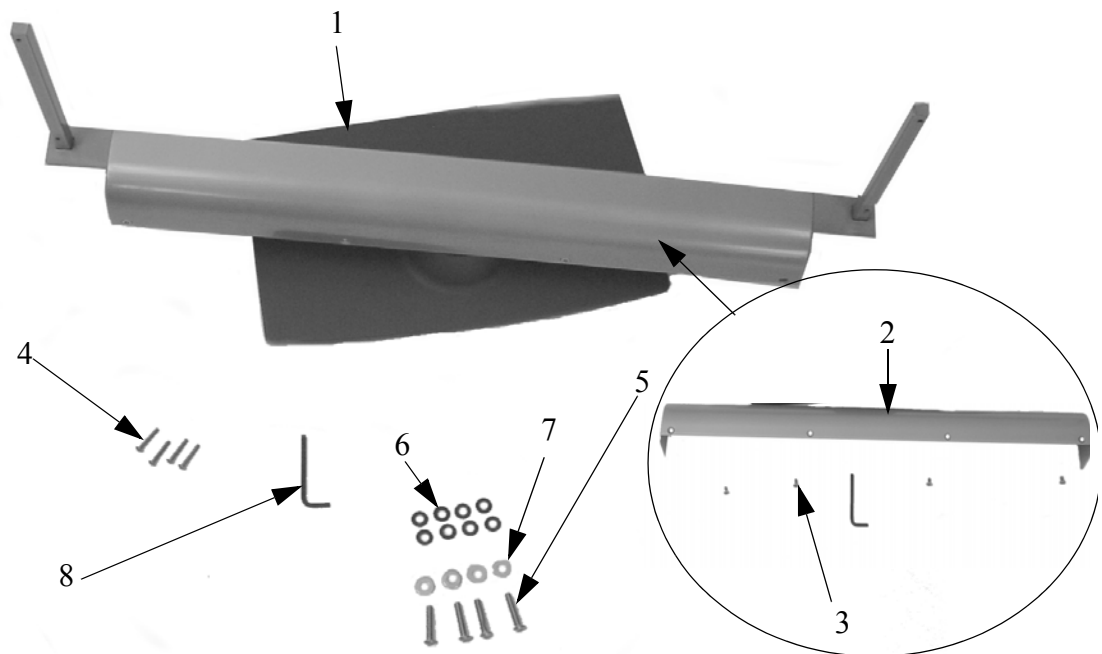
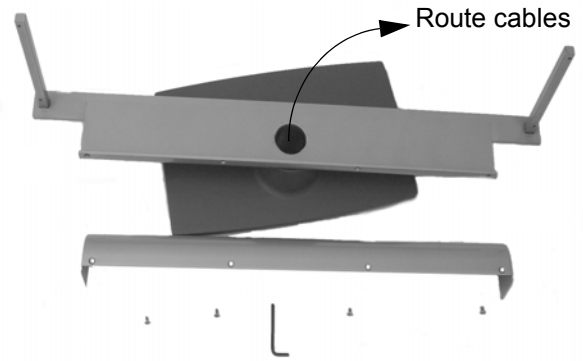
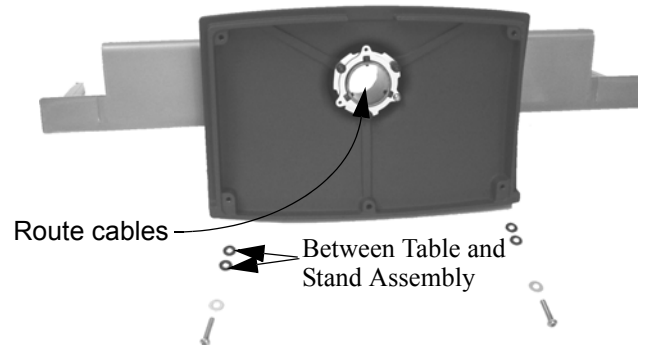

Figure 1. Parts
Figure 2. Remove Screws Securing Cover
Figure 3. Secure Stand Assembly
3. Carefully inspect all components for damage (See table 1 and Figure 1).
1. Using security Allen wrench (8) supplied, remove four M4 flat head security screws (3) securing cover (2) to stand assembly (1) and remove cover (see Figure 1 and Figure 2).
2. Secure stand assembly to table using four 1/4-20 X 1.25" button head security screws (5), four steel washers (6) and eight rubber washers (7) (see Figure 3).
3. Route cables through base of stand assembly (see Figure 2 and Figure 3).